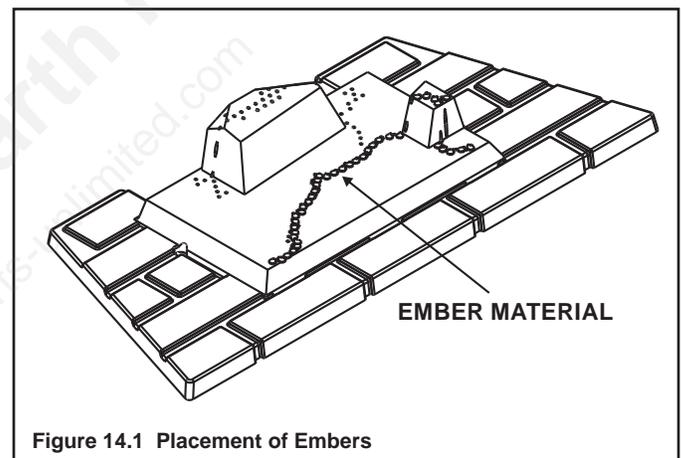

Figure 14.1 Placement of Embers
- Place dime-size pieces of *Glowing Embers*® just in front of the port trail, but not on or in between the ports (see Figure 14.1). Care should be taken so that the ports are not covered. Failure to follow this procedure will likely cause lighting and sooting problems.